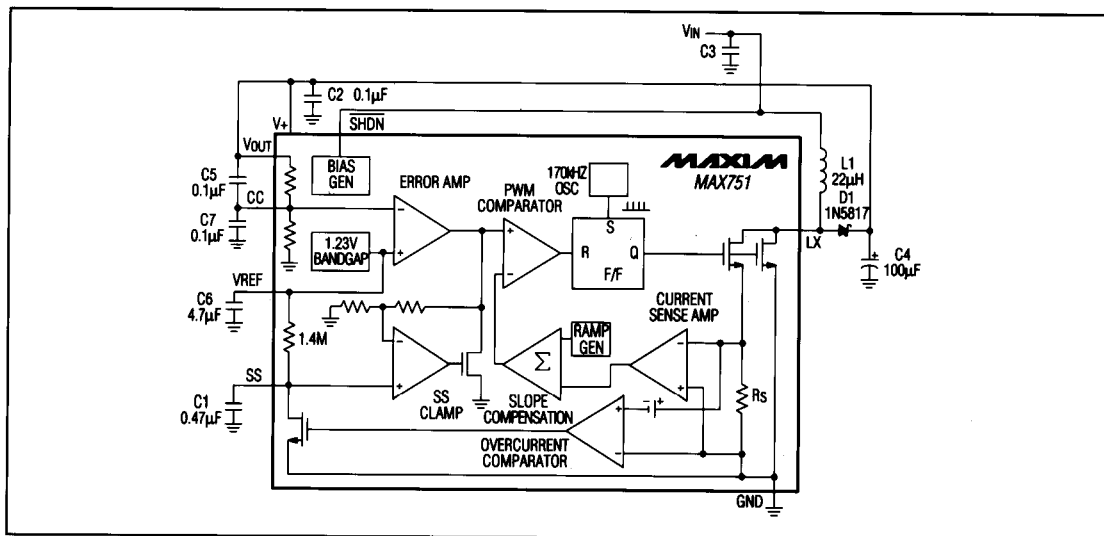

Figure 1. Detailed Block Diagram with External Components, Bootstrapped Mode
(Circuit of Figure 1, VIN = +3V, ILOAD = 0mA, TA = TMIN to TMAX, typical values are at TA = +25°C, unless otherwise noted.)
(Circuit of Figure 1 in bootstrapped mode, $L_1 = 22\mu\text{H}$, $T_A = +25^\circ\text{C}$, unless otherwise noted.)
(Circuit of Figure 1 in bootstrapped mode, $L1 = 22\mu\text{H}$, $T_A = +25^\circ\text{C}$, unless otherwise noted.)
The controller consists of two feedback loops: an inner (current) loop that monitors the switch current through the current-sense resistor (R_S) and amplifier, and an outer (voltage) loop that monitors the output voltage with an error amplifier (Figure 1). The inner loop performs cycle-by-cycle current limiting, truncating the power transistor on time when the switch current reaches a threshold determined by the outer loop. For example, a sagging output voltage produces an error signal that raises the threshold at the error amp output. This allows the inductor current (which generates the current-sense amp output voltage) to increase, resulting in more energy stored and transferred during each cycle.
The Soft-Start (SS) pin limits power-up current, allowing proper start-up with a load on the output. On power-up, the MAX751 uses the maximum switch duty cycle to draw excessive current to charge the output filter capacitor, and supply current to the load. In this case, the device may stall and the output voltage will not rise to 5V. A capacitor (between 0.047µF and 5µF) is required on SS to ensure proper start-up. The larger the capacitor, the slower the internal current-limit threshold is raised, allowing more time for start-up. As the voltage on the SS pin increases, the voltage at the SS clamp output increases, which in turn increases the current-limit threshold (Figure 1).
Use a Schottky diode with a continuous-current rating of at least 500mA for full-load (≥ 200 mA) operation. The 1N5817 is a good choice. The two compensation capacitor values at the CC input are critical because they have been selected to provide the best transient response. The input capacitor (C3 in Figures 1, 2, and 4) may be omitted if the power supply impedance is very low. Otherwise, up to 100 μ F may be necessary.
The power-up SS charge rate is determined by the time constant formed by the SS capacitor and the internal $1.4M\Omega \pm 25\%$ resistor between VREF and SS (Figure 1).